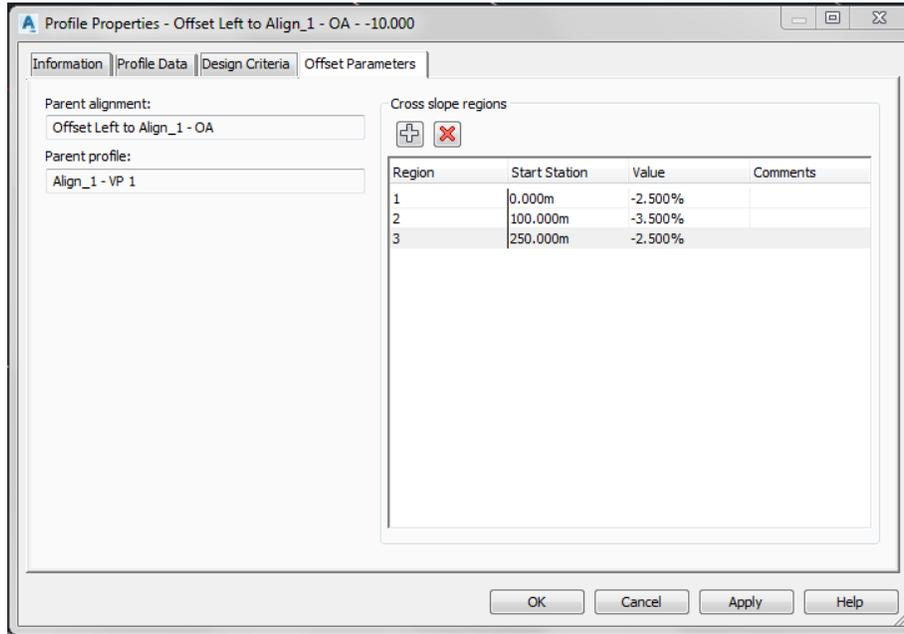

FIGURE 2 - CROSS SLOPE REGIONS
- The profile can have different slope relationships to the parent profile in different regions of the alignment (See Figure 2).